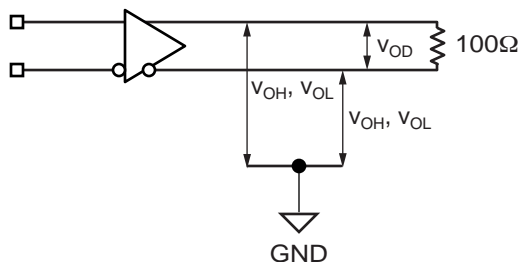
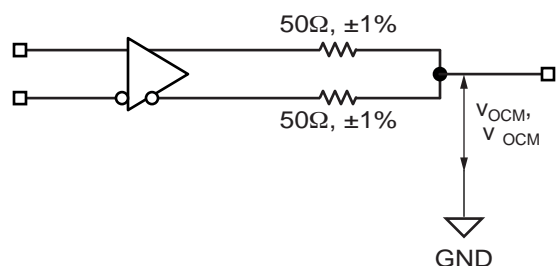

Figure 3. LVDS Differential Measurement
Figure 4. LVDS Common Mode Measurement
**Note 7.** Measured as per Figure 3,  $100\Omega$  across Q and /Q outputs.**Note 8.** Measured as per Figure 4.